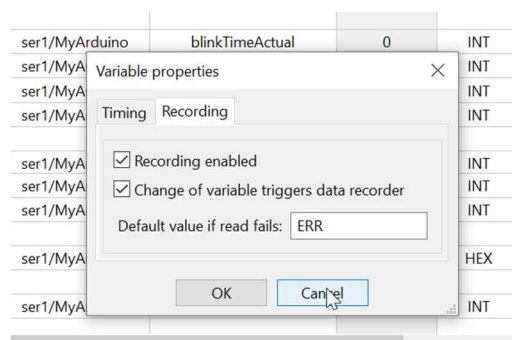

Fig. 3.13. Make *blinkTimeActual* a trigger for variable change recording.
- ✓ In the main variable grid, select line 7 with the variable "*blinkTimeActual*". (fig. 3.13.)
⇒ Note: If you disable (fig 3.13.) Recording enabled, this variable will trigger recording of the complete set of variables in REC1 but *blinkActual* will not be part of the recorded data.